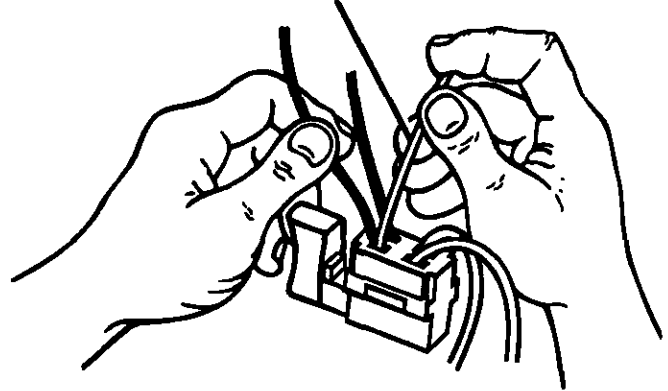

Fig. 14
- Release the leads from the switch by inserting a 1/32 in. diameter pin or nail into each switch lead receptacle. See Figure 14.